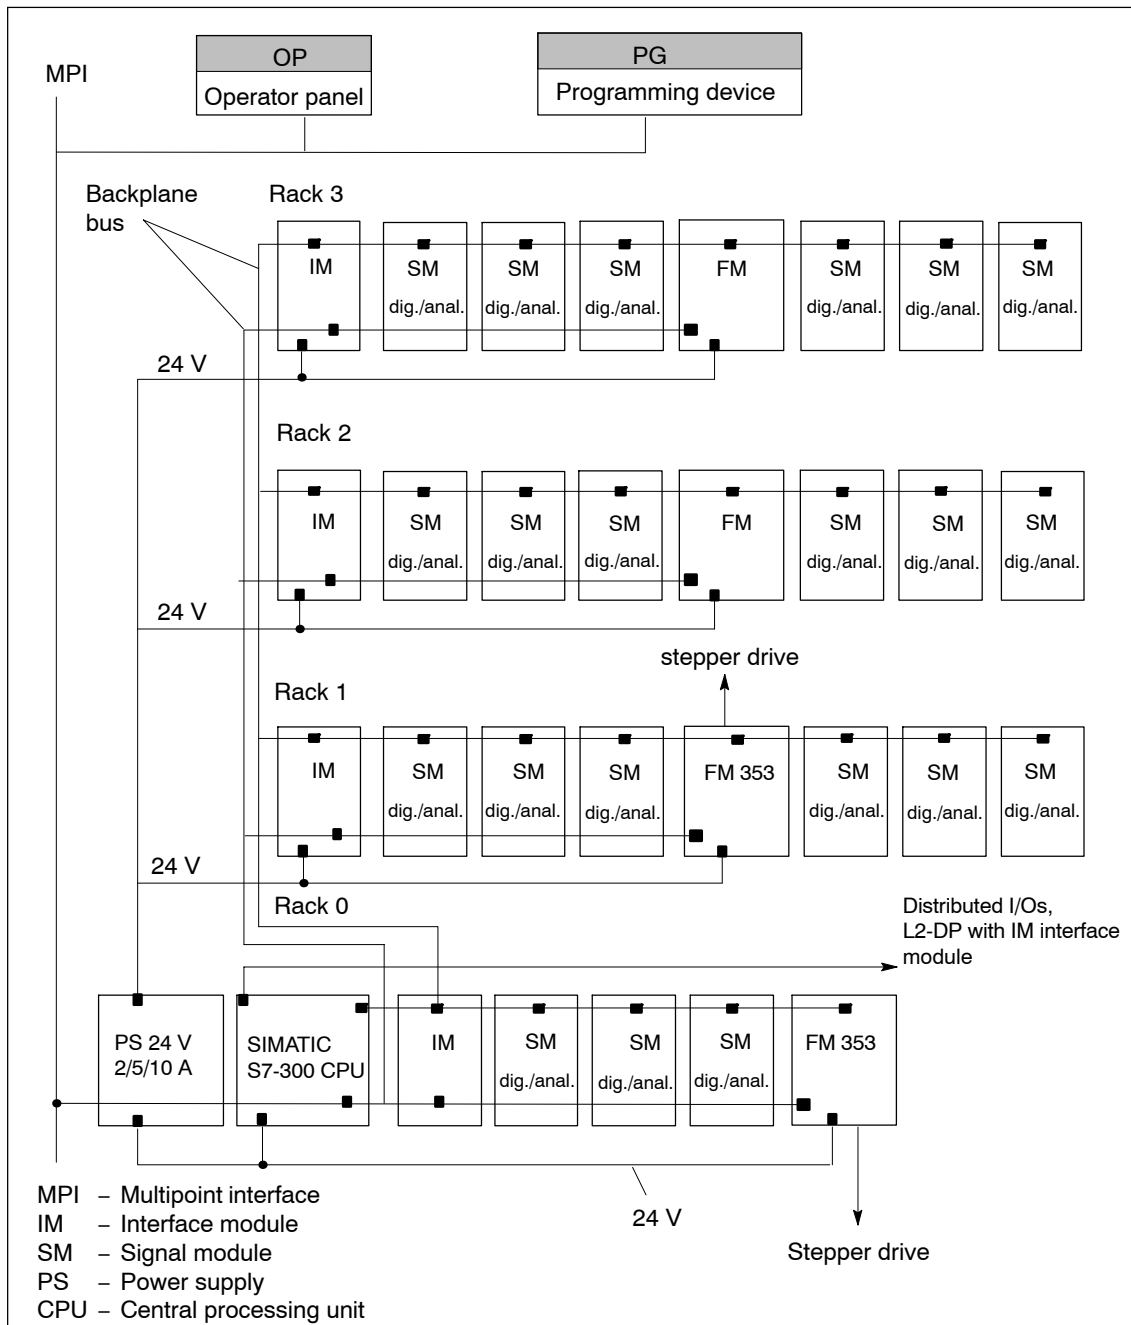

Fig. 1-1 Multi-rack configuration of a SIMATIC S7-300 with FM 353 (example)
A SIMATIC S7-300 CPU may run up to four racks with as many as eight bus stations each (see Figure 1-1).
Interface module (IM)	... connects the individual cells of an S7-300 with one another (applies to multi-rack configuration; see Figure 1-1).